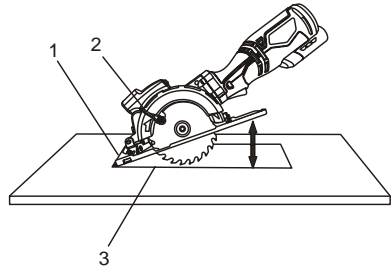

Fig. 10
3. Set the saw on the workpiece so the front edge of the sole plate (1) is flat on the workpiece (Fig. 10).
4. Open the blade guard by rotating the blade guard lever (2) forward.
5. Align the saw blade with the cutting line (3) using the 0° cutting mark on the sole plate and the laser line.